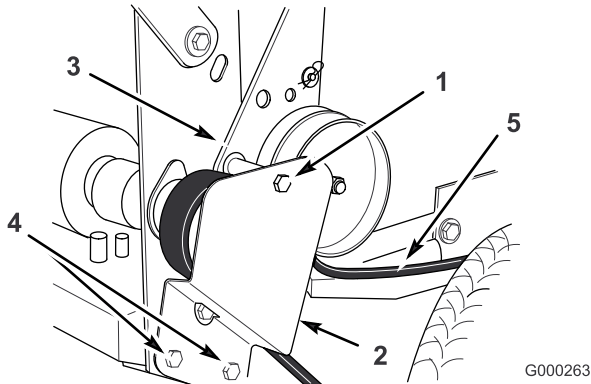

Figure 47
1. Remove the top bolt securing idler support and idler bracket to rear frame (Figure 47).
2. Loosen bottom two mounting screws enough to allow belt to pass between drive pulley and idler support (Figure 47).
5. Install the top bolt securing the idler support and idler bracket to the rear frame (Figure 47).
6. Tighten the bottom two mounting screws enough to allow the belt to pass between the drive pulley and idler support (Figure 47).